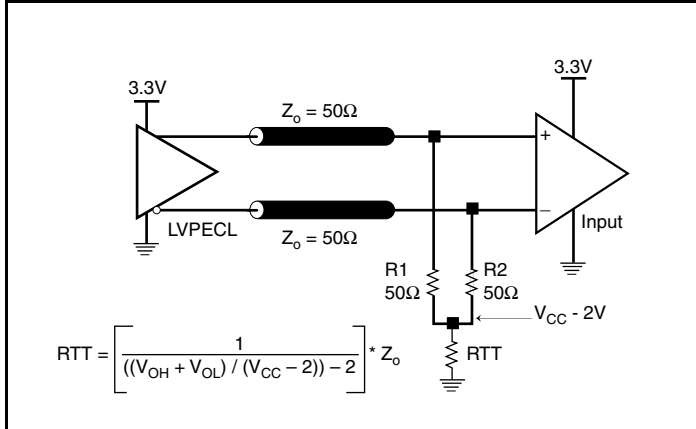

Figure 6A. 3.3V LVPECL Output Termination
*Figures 6A and 6B* show two different layouts which are recommended only as guidelines. Other suitable clock layouts may exist and it would be recommended that the board designers simulate to guarantee compatibility across all printed circuit and clock component process variations.